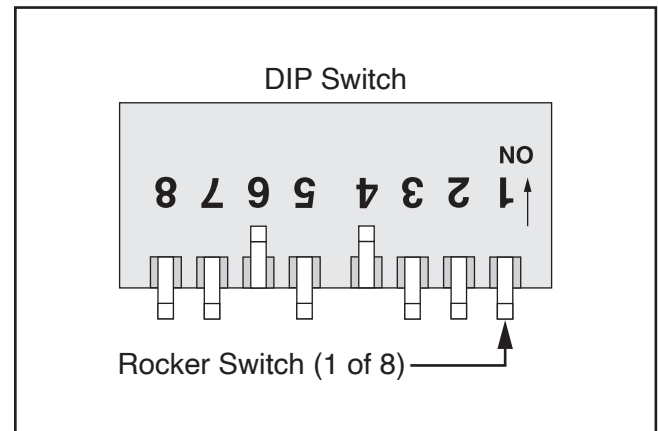

Figure 123. Stepper driver DIP switch configuration.
3. Compare X-axis stepper driver DIP switch configuration to diagram in **Figure 123**.
4. Compare Y-axis stepper driver DIP switch configuration to diagram in **Figure 123**.
5. Compare Z-axis stepper driver DIP switch configuration to diagram in **Figure 123**.